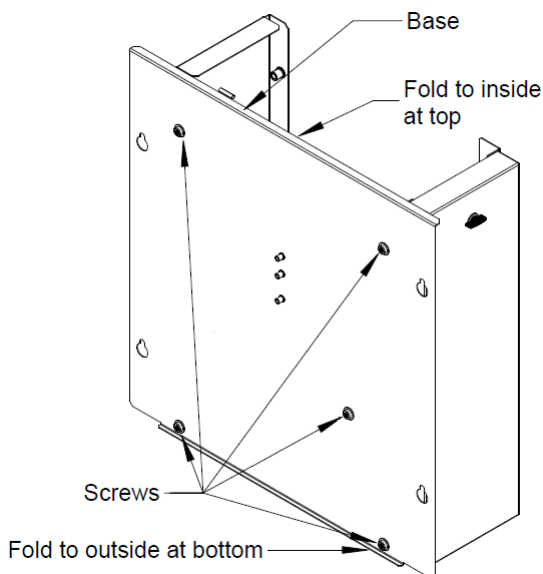

Figure A3
- Rotate the base 180° and secure to the left hand side of the housing. - Figure A3